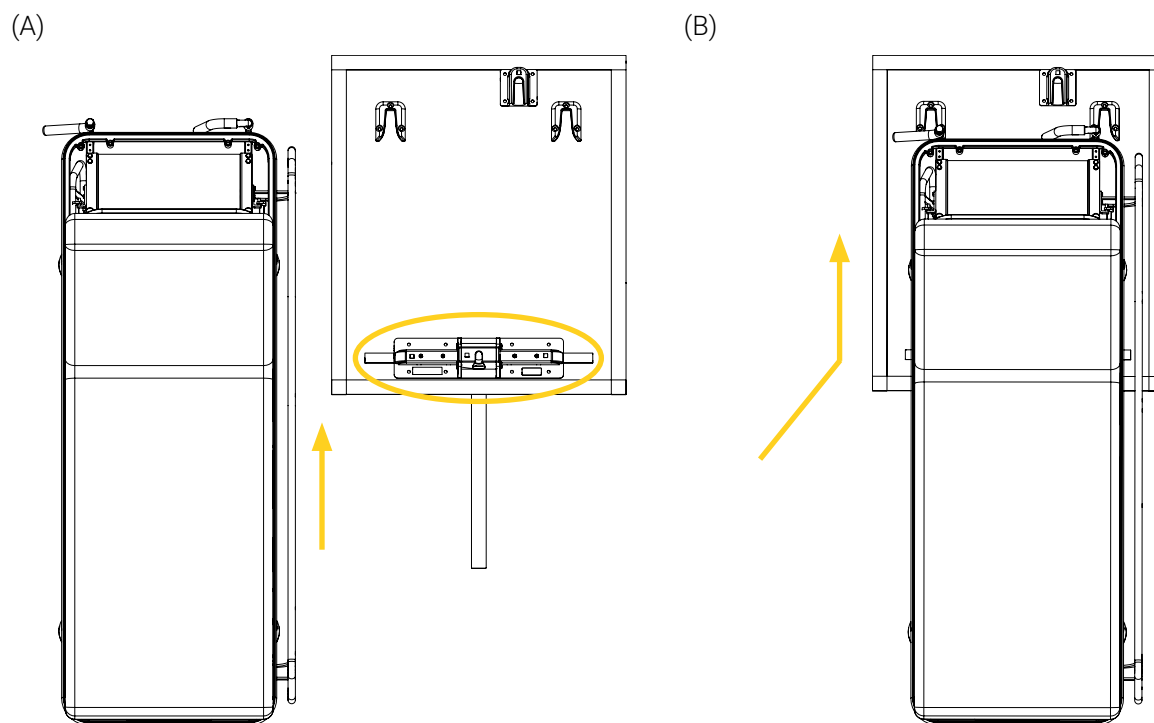

Figure 16: Safely approaching the anchoring system with the stretcher
2. Steer the patient head end of the stretcher towards the AnchorMed Floor Mount, staying outside the tripping hazard perimeter, until the front casters have gone past the Floor Anchor (Figure 16 A). Refer to the « Safety Labels » section on page 10 if needed.
3. Steer the stretcher around the Floor Anchor inside the tripping hazard perimeter and towards the Hitch Floor Guide and Caster Floor Guides (Figure 16 B), using the alignment decals to facilitate the line up of the AnchorMed Floor Mount and AnchorMed Stretcher Mount (Figure 17). Refer to the « Labels » section on page 10 if needed. Refer to the « Safety Labels » section on page 10 if needed.